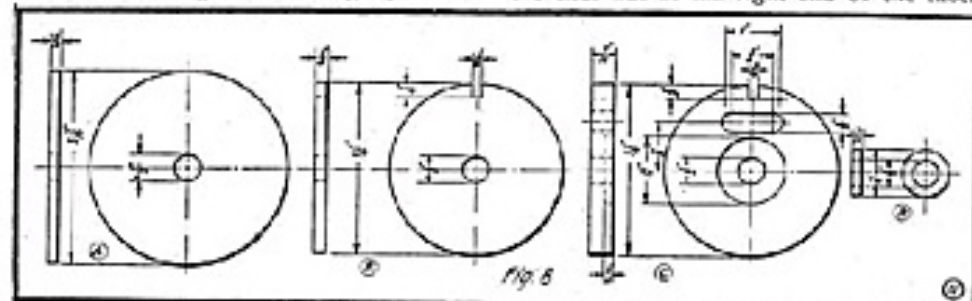

Fig. 8. End Discs of Secondary Coil.
Fig. 8 gives the size of these pieces. In turning them up, bore the 1/2-inch hole in the center first; then turn them on a wooden face plate which has a little mandrel to fit tightly in the hole. If the hole is not exactly in the center of the pieces the secondary will not be concentric with the primary. Take (A) first. After shellacking and rubbing it down fasten it in the left-hand end of the primary tube with strong glue. To fit properly in the box the end of the tube must be at right angles with its axis.
Now, when the case is put together, except the top (look at Figs. 2 and 3) to see where to fasten the slide tube. First put the primary, secondary and small end piece (D, Fig. 8) on the tube, with the coils in the center. Do not fasten the front on yet. Spread cold glue thinly on the primary end piece and the piece (D). Press them against the ends of the case, estimating the distances shown on the drawings. Quickly, before the glue can set, put two or three screws in the front—just enough to hold it in position. Take the rod which is to go through the screw eyes X on the end of the secondary and put it through the tube of the coupling adjust-